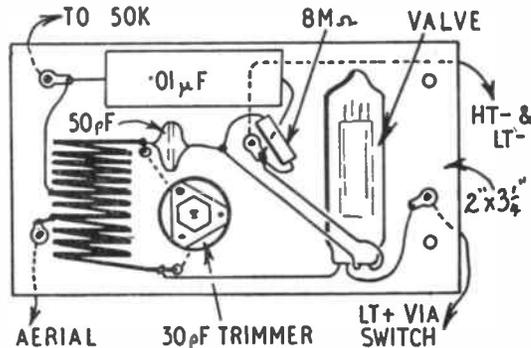
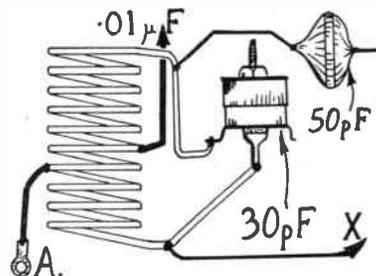
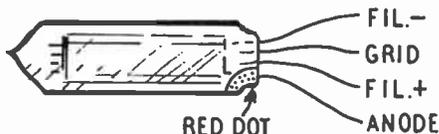
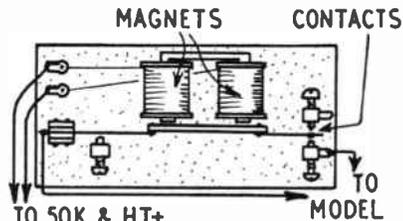

Fig. 2—Wiring diagram of receiver
Fig. 3—Coil and trimmer wiring
Fig. 4—Valve connections
Fig. 5—A dual coil relay
connections, are shown in Fig. 2. The trimmer should be mounted first. To do this, drill a clearance hole for the side and central tags, so that the trimmer fits flat on the Paxolin panel. The side tags are then turned out to hold the trimmer in place.
Coil and trimmer connections are also shown in Fig. 3, and this should make wiring perfectly clear. A centre tap is needed on the coil, and is made by soldering a short length of wire to the centre turn. This wire goes to the $0.01\mu\text{F}$ condenser, and 50K variable resistor.
For the aerial connection, a further short wire is soldered on about one turn from the centre tap. This is marked (A) in Fig. 3. The bolt holding the soldering tag provides a connecting point for the aerial. Subsequently, the aerial tapping may be moved a further turn or so away from the centre tap, if a very short aerial is to be used on the model.
The 50pF fixed condenser is soldered to one end of the coil, as shown in Figs. 2 and 3. The anode lead of the valve is soldered to the other end of the coil, as in Fig. 2. This is marked (X) in Fig. 3.
Two small holes are drilled in the panel, so that a short loop of thin string will hold the valve in place. The valve base is coated with a moisture-repellent, and should not be handled. Valve leads are shown in Fig. 4, the red dot indicating the anode, at the left in Fig. 2. Next comes the filament positive lead, going to L.T. positive (via switch). Grid goes to 50pF condenser and 8 megohm resistor. Filament negative goes to H.T. negative and L.T. negative. Add short lengths of thin sleeving, to ensure that the wires do not touch each other. Do not bend them sharply very near the valve.
AFTER the framework is assembled, all of the outer surfaces have to be 'faired off' to present an even surface to the plywood. Some of the beveling may be done more easily before assembly, and these angles are given on the plan. The hog (A) is shaped and bevelled and fitted next. The gunwales (B) do not need any beveling. At the stem a gunwale is bevelled to fit against the post (Fig. 3), where it is glued and screwed. It is then bent through the slots in the frames and cut to fit in the slot at the transom. The two chines (C) and (D) have to be bevelled and fitted in the same way (Fig. 4). Keep in mind that the surfaces have to be faired off later — it is easier to rub down the edge of a frame than the longer length of a lengthwise part, so it pays to notch a little on the deep side (Fig. 5). The two risers (F) may be fitted now. There is no need for steaming in any of the construction.